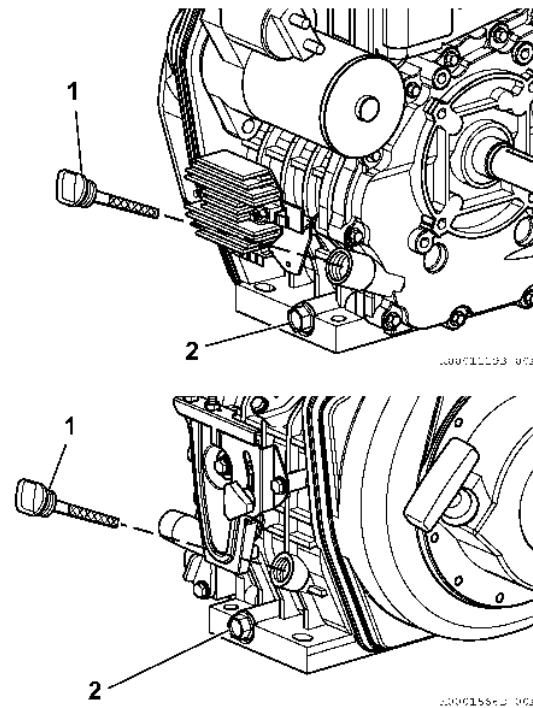

Figure 67
5. Remove one of the drain plugs located on the bottom of the cylinder block (**Figure 67, (2)**). Allow oil to drain.
6. Remove the oil cap/dipstick (**Figure 67, (1)**) to allow the engine oil to drain more easily.
7. After all oil has been drained from the engine, reinstall the drain plug (**Figure 67, (2)**) and tighten to 173 - 208 lb-in. (19.6 - 23.5 N·m, 2.0 - 2.4 kgf·m).